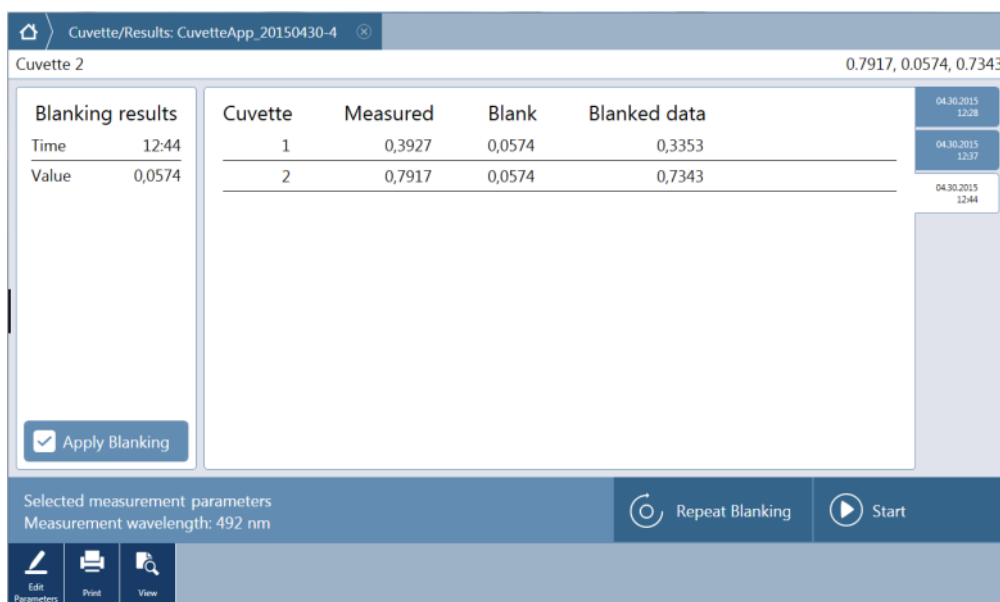

Figure 135: Result window with multiple result sheets
- If needed, repeat blanking during the current measurement session via **Repeat blanking**. The old blanking value is discarded and the new blanking value is valid for all the following measurement. For each repetition, a new result sheet is generated indicated by the tabs placed on the right side of the Result window (Figure 135: Result window with multiple result sheets). Each tab is provided with the date and time of the respective blanking readout.